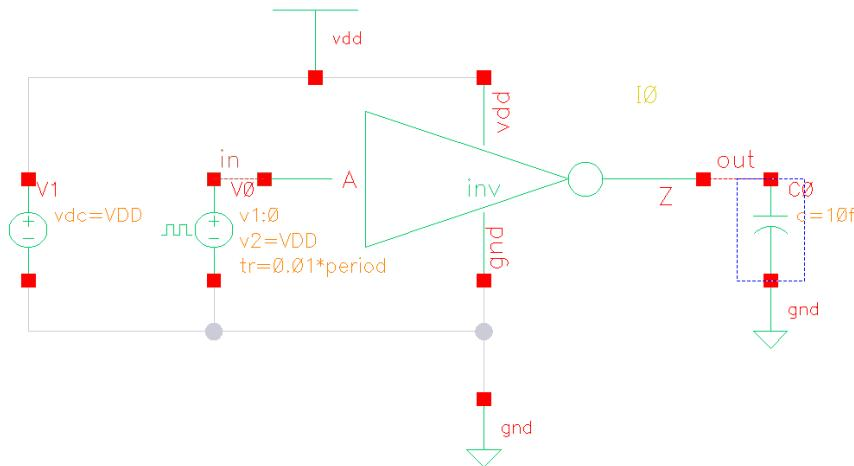

Figure 18: Inverter testbench schematic.
8. Your testbench should look like Fig. 18.